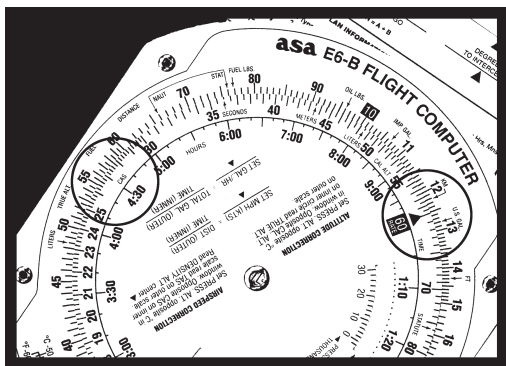

Figure 4
1. Set the rate arrow at 125 on the outer scale. See Figure 4.